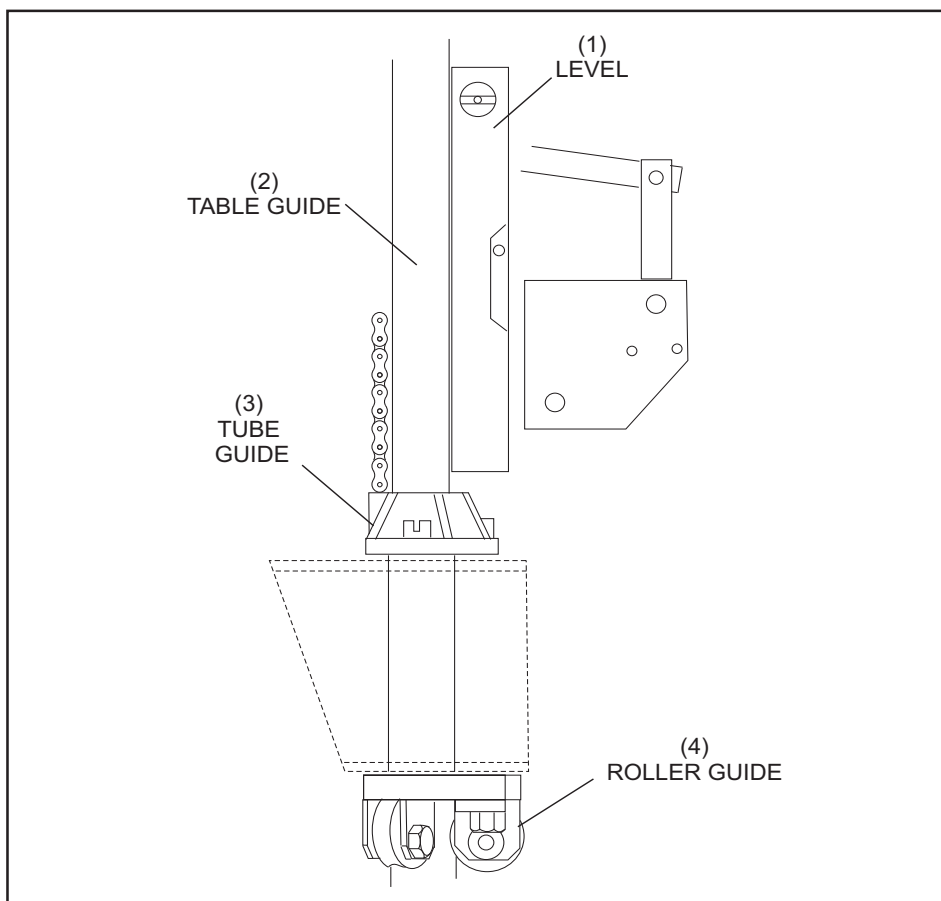

Figure 5-26. Table Rack Guide Rollers.
- a. With the table at home position check the front, back and side to side position of the table tube using a level. Refer to *Figure 5-26*. If adjustment is needed, loosen the 24 mm hex nuts on the setting table studs. Refer to *Figure 5-27*. Adjust the roller guides and bearing block as needed to obtain a level tube guide.
- (1) LEVEL
- (2) TABLE GUIDE
- (3) TUBE GUIDE
- (4) ROLLER GUIDE